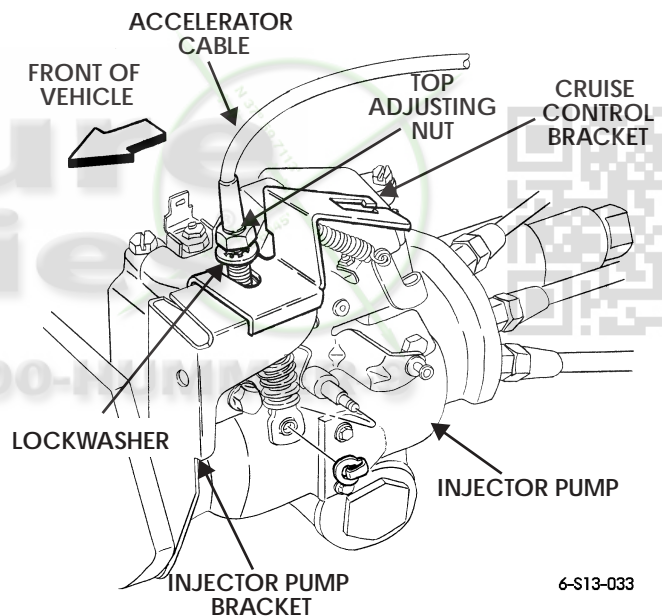

Figure 13-73: Accelerator Cable Mounting
2. Adjust accelerator cable adjusting nuts so cable end holds throttle shaft lever in full throttle position. Tighten adjusting nuts (Figure 13-73).